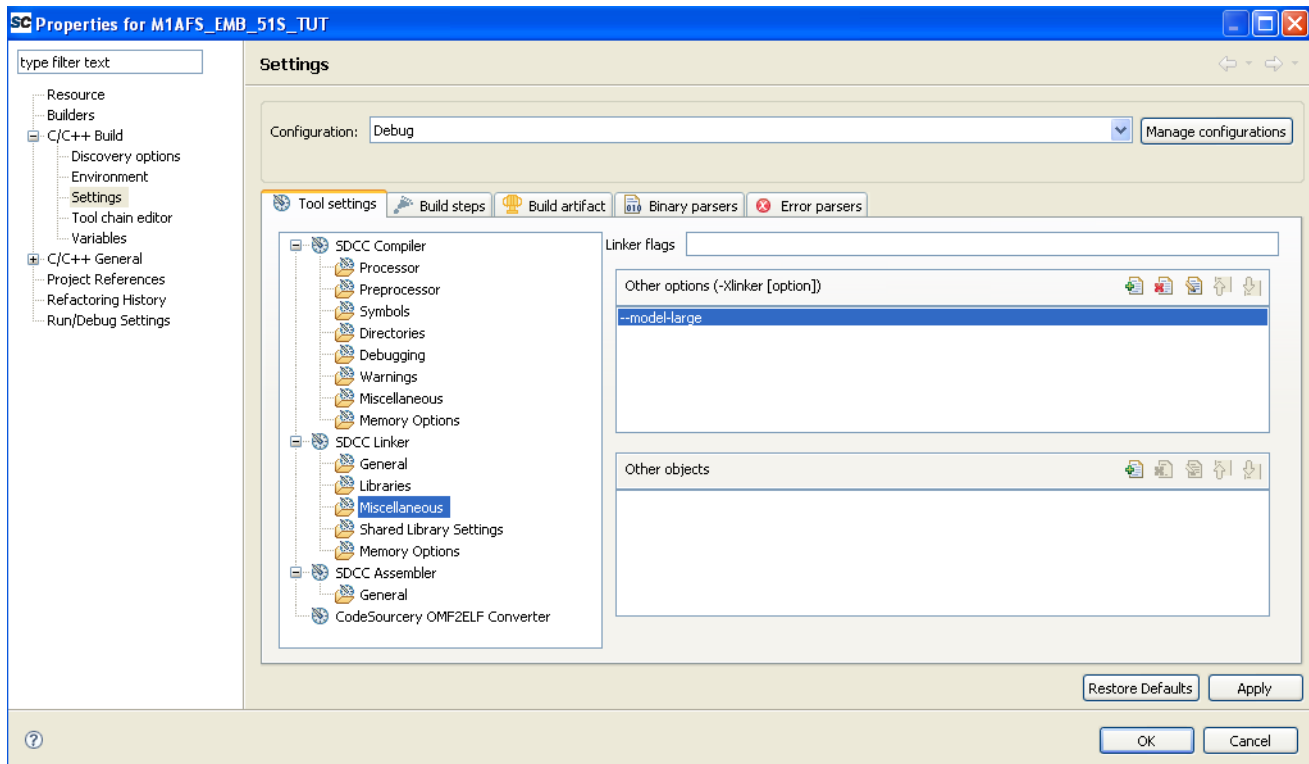

Figure 4-8 · Setting the Compiler Linker Option To Large
4. In the Memory Model box, use the pull-down menu and select either Large or Small (Figure 4-8).